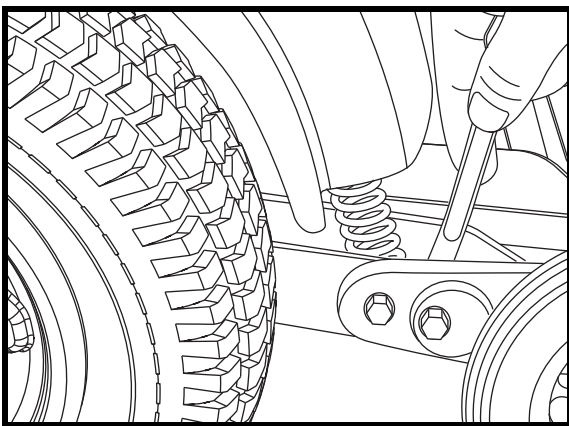

Figure 20. Anti-Tip Wheel Adjustment (Inner Locknut)
1. Place a spanner on the inner locknut of the anti-tip bracket located right after the shock strut. See figure 20.